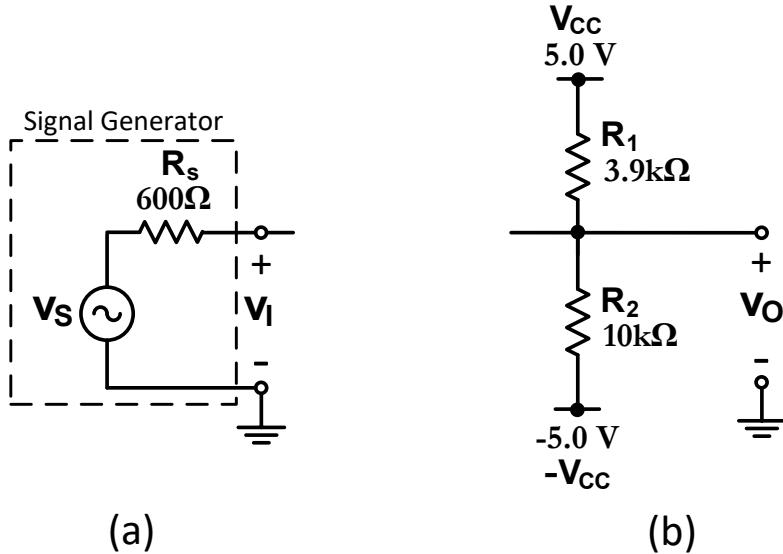
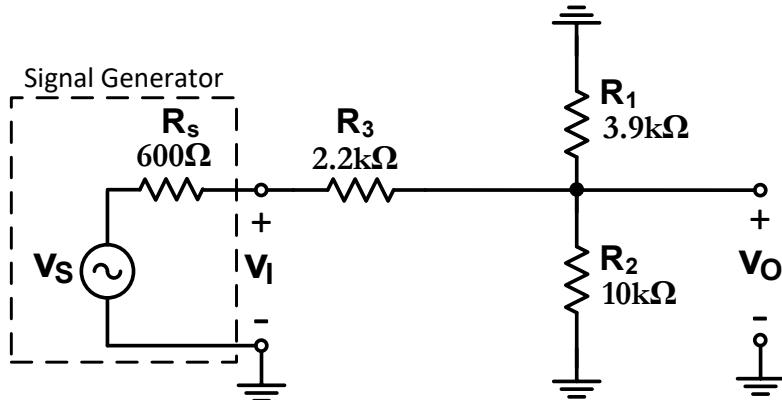
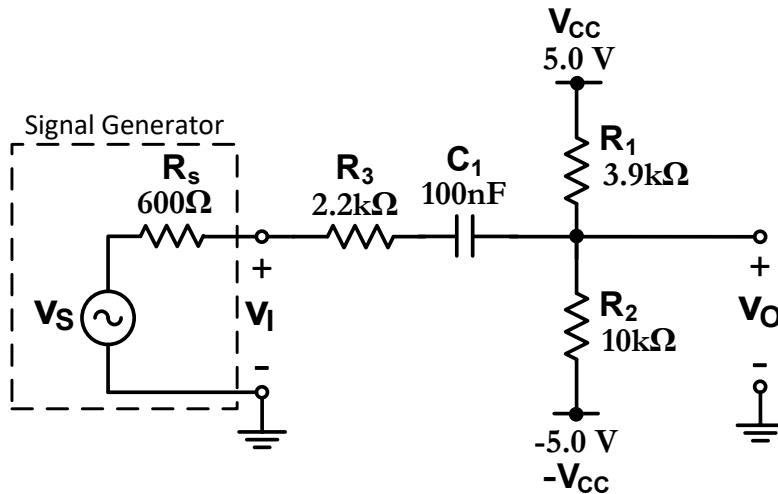

Figure 2. Circuit for Step E1.
Figure 4. Circuit for Step E2.
Figure 5. Circuit for Step E3.
Table E1 (corresponding to Figure 2)
E2. Change the circuit of **Figure 2** to that of **Figure 4**. Make sure that you disconnect the DC power supply from the circuit, and connect the uncommon terminals of R_1 and R_2 (which were connected to the power supply lines V_{CC} and $-V_{CC}$) to the ground by two short wires. Also, before inserting R_3 into the circuit, make sure that v_I has the same peak-to-peak swing (i.e., 4 V) and frequency (i.e., 20 kHz) as those it had in **Step E1**. Using the oscilloscope, capture the waveforms of v_I and v_O for two cycles. Using the USB utility of the oscilloscope, save the two captured waveforms as **Graph E2**. Note that the amplitude of v_I decreases once the resistor R_3 is inserted into the circuit.
Table E2 (corresponding to Figure 4)
- E3. Change the circuit of **Figure 4** to that of **Figure 5** and repeat experiment **E2**. Thus, reconnect the power supply lines to the circuit. First take R_3 out and, once again, make sure that v_I has the same peak-to-peak swing and frequency as those it had in **E1** (i.e., 4 V and 20 kHz).
Table E3 (corresponding to Figure 5)
- C3. Using Multisim or any other circuit simulation software, simulate the circuit shown in **Figure 1** (which is the same as the circuit in **Figure 5**), based on the assumption that the voltage v_S is a 20-kHz sinusoidal signal with a peak-to-peak swing of 4 V. In the lab report, attach the resulting simulated waveforms for v_S , v_I , and v_O , all plotted on one single frame and labeled clearly. Additionally, include the schematic diagram of the simulated circuit by printing from the screen in Multisim. Compare the waveforms obtained from the simulation with those of **Graph E3**, and comment.